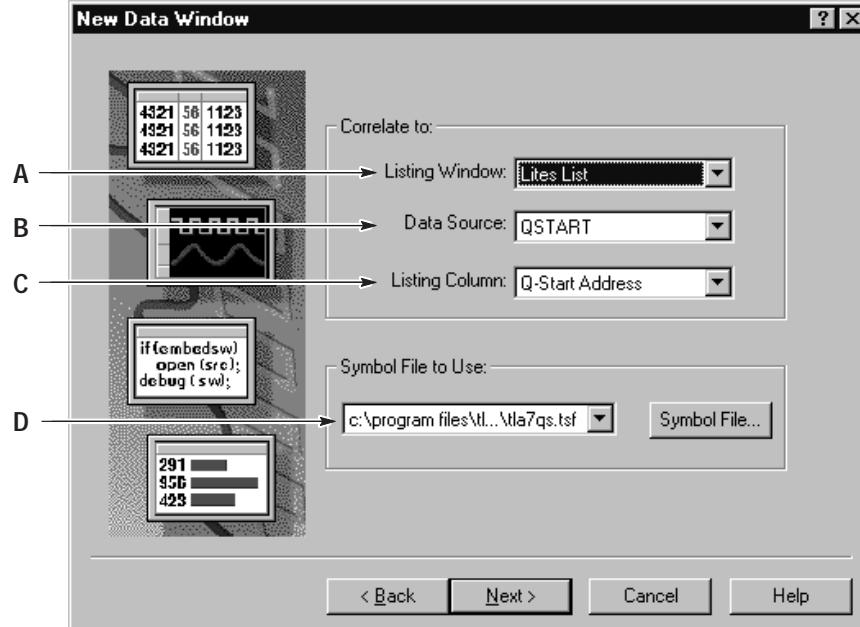

Figure 4-3: New Data Window wizard dialog box
14. Select “An existing Listing window.” Click Next. The dialog box in Figure 4-3 appears.
**NOTE.** Before clicking on the Next button in this dialog box, take note of the required information to correlate a Source window with a Listing window. The labels in Figure 4-3 identify this information. These parameters were preset for this exercise; you will need to provide your own information in future instances.